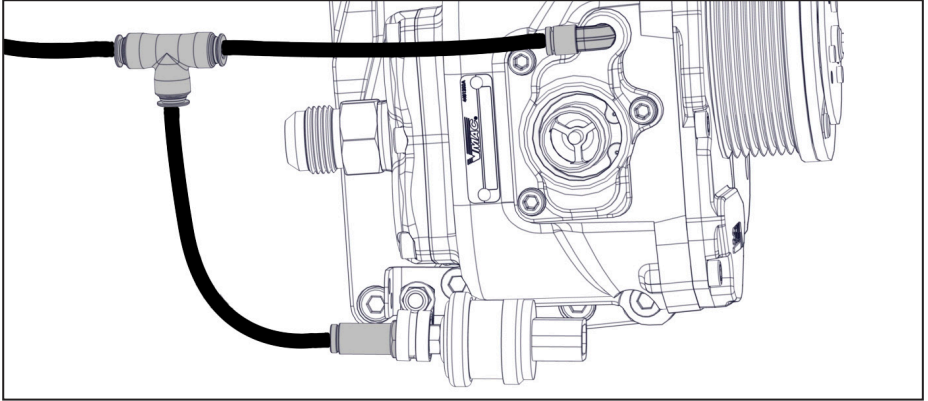

Figure 32 — Install pressure switch
- From the 24 in spool of 1/4 in PTFE tubing, connect the scavenge tube to the compressor, pressure switch assembly, and Union Tee (Figure 32).